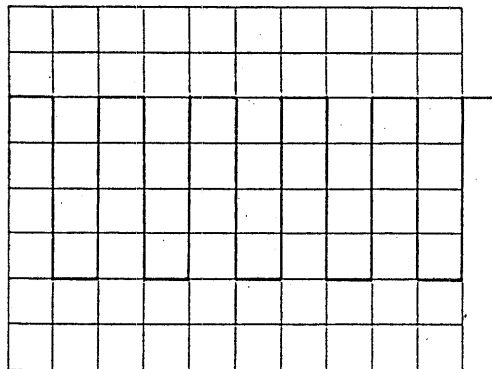

Figure 4-3
- 5) Set the AC-GND-DC switch in the AC state. A waveform as shown in Figure 4-3 will be displayed on the CRT screen.
When the calibration voltage signal is applied to the input terminals of both X and Y axis with the P100-S 10:1 Probes (supplied) and the corresponding VOLTS/DIV switches are properly adjusted, a Lissajous figure as shown in Figure 4-3 will be displayed.